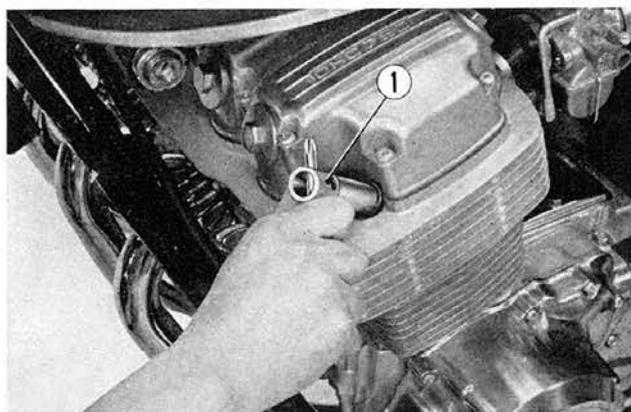

Fig. 7-13 ① Spark plug wrench
1. **The spark plugs in the No. 2 and No. 3 cylinders are difficult to reach and if care is not taken during the removal and installation of these spark plugs, it is possible for the plugs to be dropped and become lodged in the cylinder head cavities. (Fig. 7-13)**